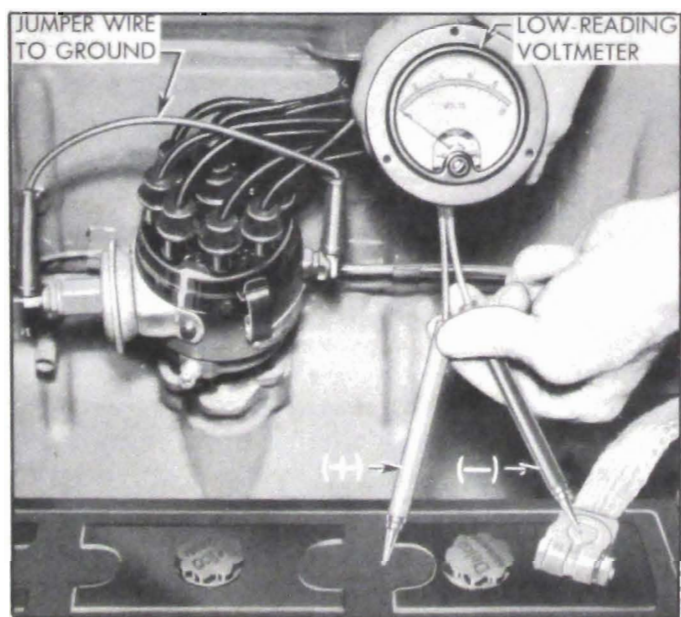

Figure 10-6—High Discharge Test of Battery Cell with Voltmeter
2. Connect voltmeter leads to the terminals of each battery cell in turn and quickly note the voltmeter reading while cranking the engine. See figure 10-6. Do not operate cranking motor more than thirty seconds at any time without pausing for a few minutes to allow it to cool; otherwise, cranking motor may be severely damaged.